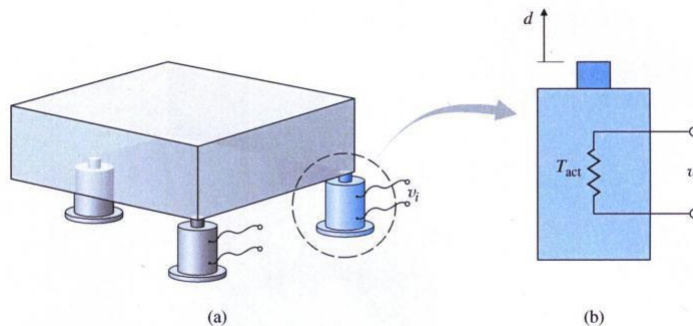

Fig. 2.57 (a) Precision table kept level by actuators; (b) side view of one actuator
23. A precision-table leveling scheme shown in Fig. 2.57 relies on thermal expansion of actuators under two corners to level the table by raising or lowering their respective corners. The parameters are: